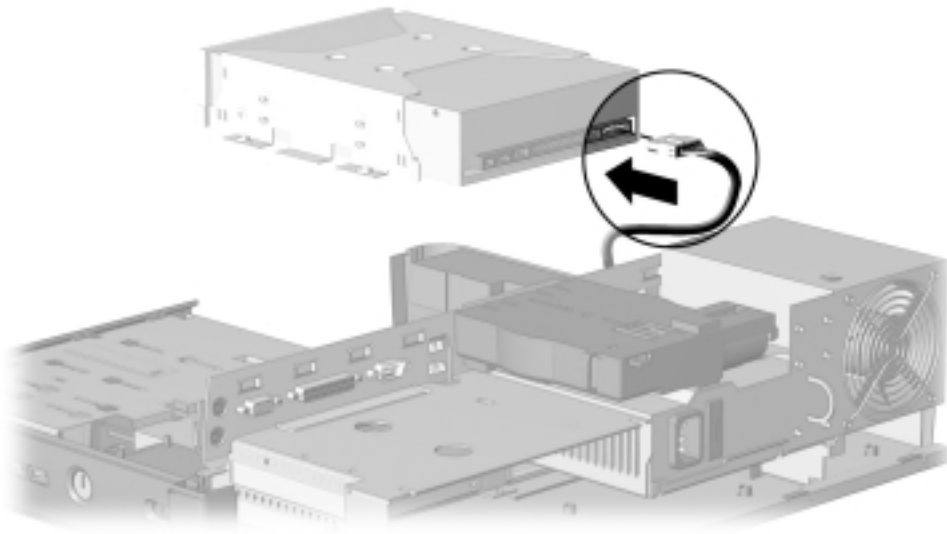

Figure 5-18. *Connecting the Power Cable*
12. Connect the half-height bay power cable to the power connector on the half-height device (Figure 5-18).